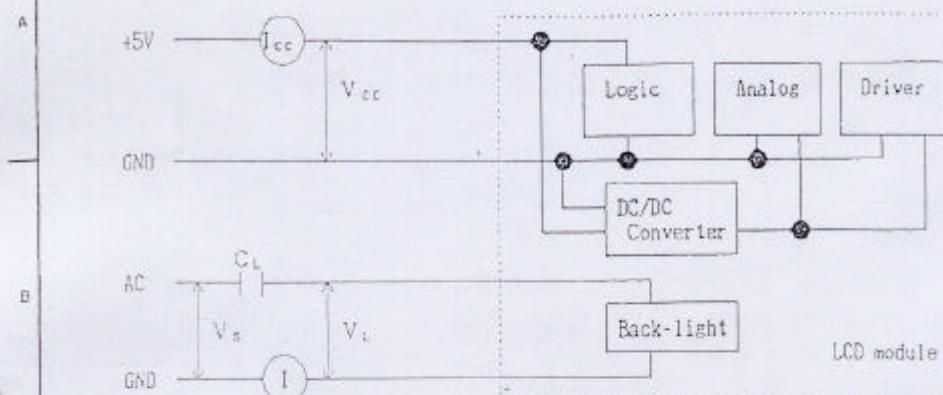

Figure 8-1 Measurement circuit
A Table 8-1 shows the electrical specifications of this LCD module. Figure 8-1 shows the measurement circuit. Figure 8-2(A) shows the equivalent circuit of the logic signal input area. Figure 8-2(B) shows the equivalent circuit of the supply voltage input area.
Measurement circuit is based on Figure 8-1.